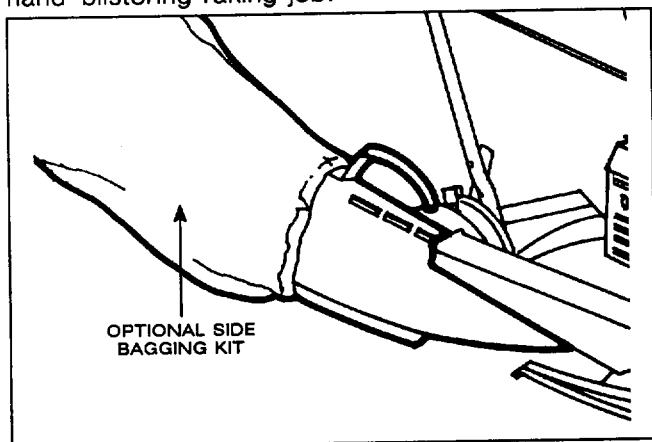

Figure 20
- 1. Side Bag Kit (Part No. 38-0050)**—Side bag kit (Fig. 20) lets you bag lush grass in spring. In the fall, bag leaves while you mow to eliminate the hand-blistering raking job.